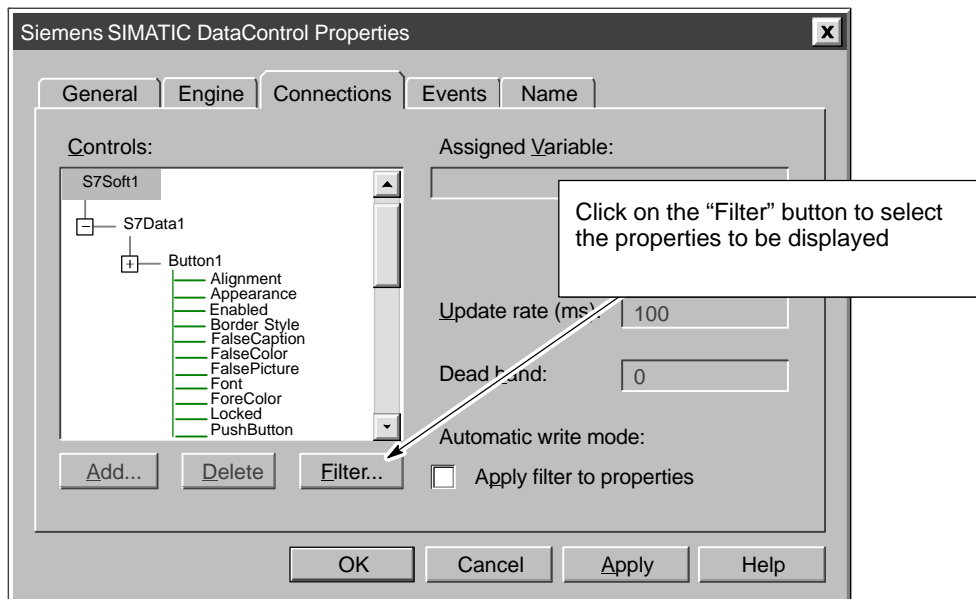

Figure 1-6 Using the Filter Button
4. As shown in Figure 1-6, click on the "Filter" button.